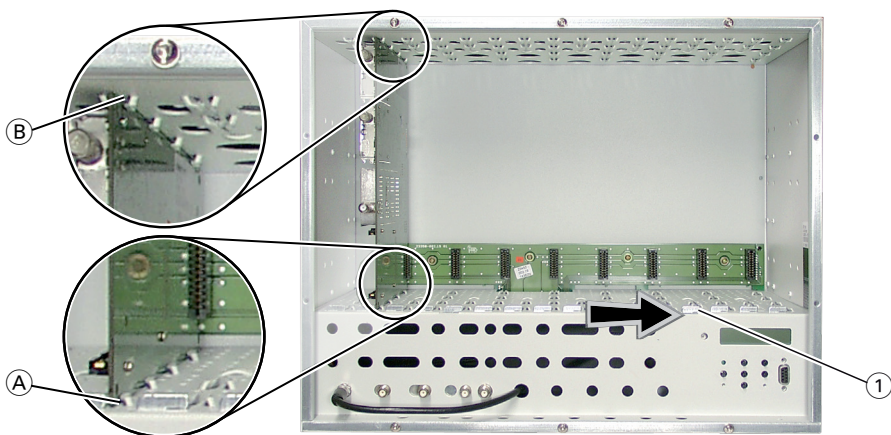

Fig. 3
- Insert the DVB-S2-QAM module in grooves (A) and (B) of an open slot (with contact strip on the board at the rear wall of the housing) and gently slide it into the head-end station until it makes contact with the board on the rear wall (fig. 3).
- After installing the DVB-S2-QAM module close the locking device ① in the direction of the arrow (fig. 3).